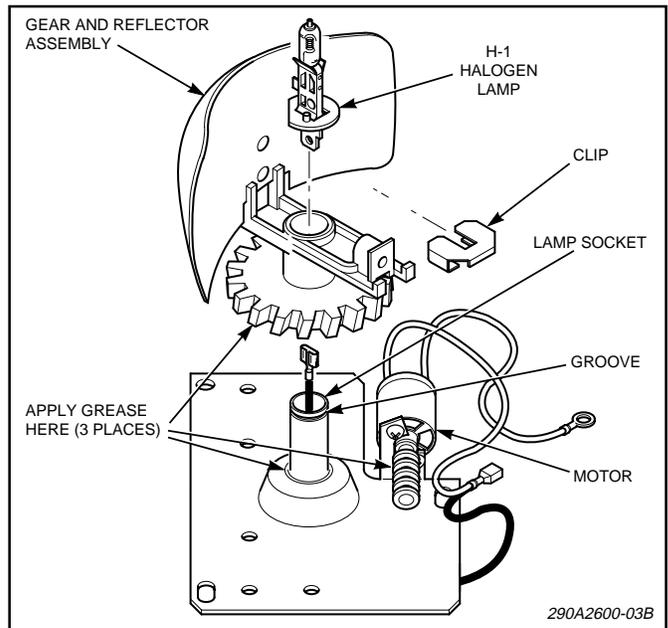

Figure 6.
All gears should be greased at least twice a year. Use medium consistency Dow Corning DC33 or equivalent type grease. Proceed as follows (see figure 6):
- Lift-off reflector and worm gear. Lubricate with grease as shown in figure 6.